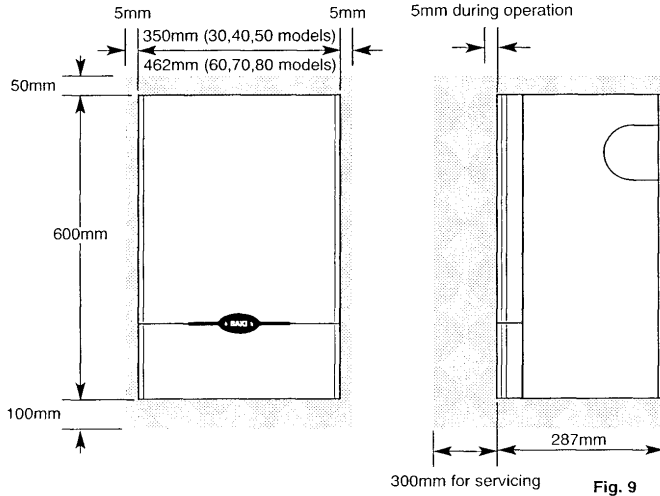

Fig. 9
4.2 Minimum Clearances (Fig. 9)